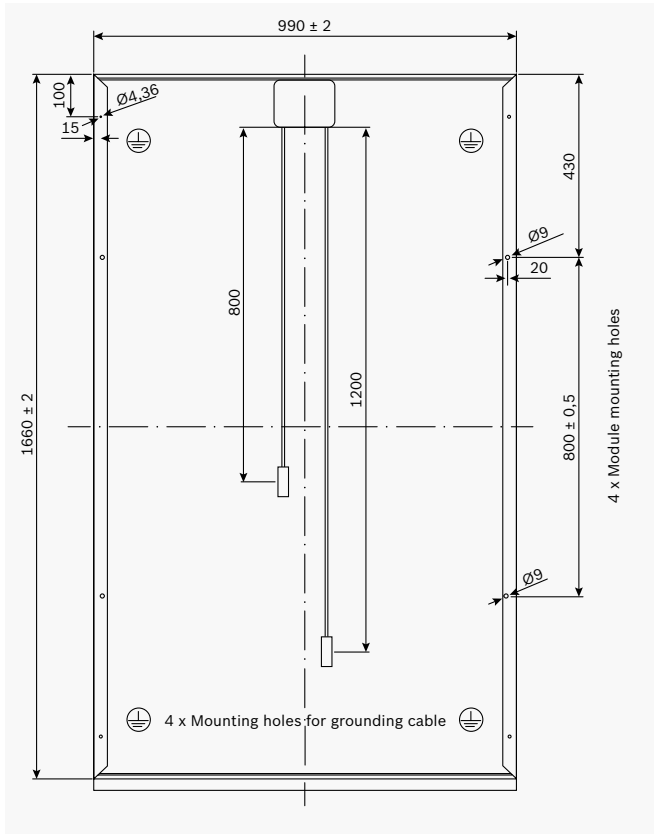

figure 1: reverse side c-Si M 60 and M 60 S, P 60, manufacturers 14, 17 and 23
- ▶ Position of the installation drill holes in accordance with **figure 1–2**
- ▶ Position of the grounding drill holes in accordance with **figure 1 and 2**